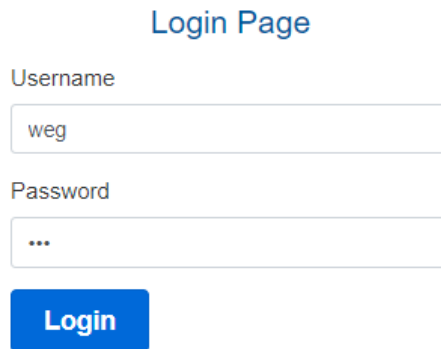

Figure 6.3: Authenticating to the Drive Scan
**Step 3** If the login page, shown in Figure 6.3, does not appear, reset your computer IP address to the same IP range as the Drive Scan. This manual has an appendix (Chapter A) with instructions regarding this procedure for Windows 10.